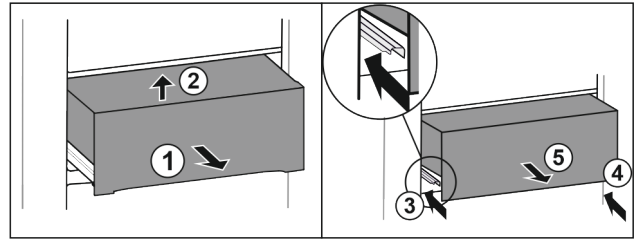

Fig. 22
- ▶ Pull out the drawer halfway. Fig. 22 (1)
- ▶ Lift drawer at the front. Fig. 22 (2)
- ▶ Slide in left rail. Fig. 22 (3)
- ▶ Slide in right rail. Fig. 22 (4)
- ▶ Remove drawer to the front. Fig. 22 (5)